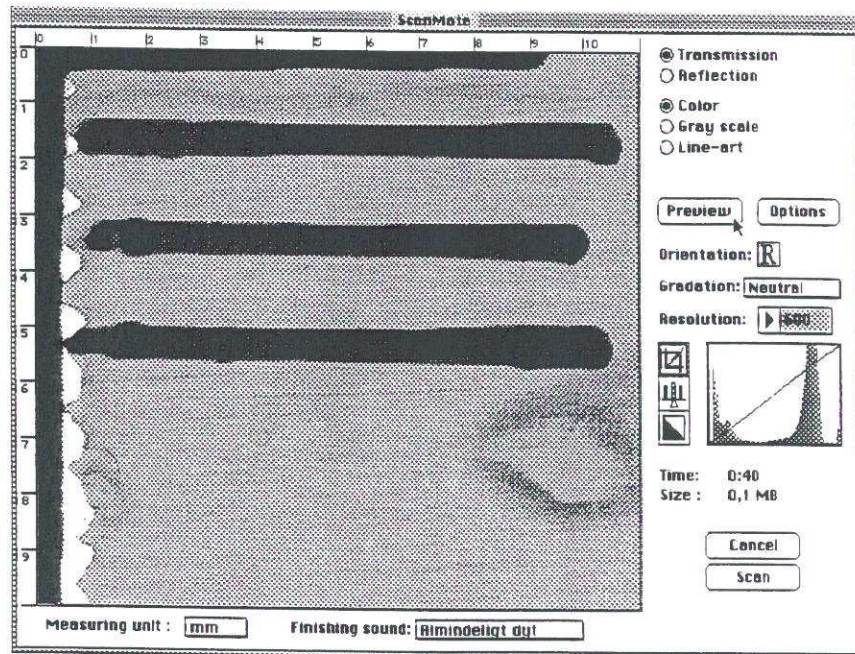

Fig. 1
- 9 • The horizontal line on the monitor (short line), should be visible in the zero position as shown in fig. 1.